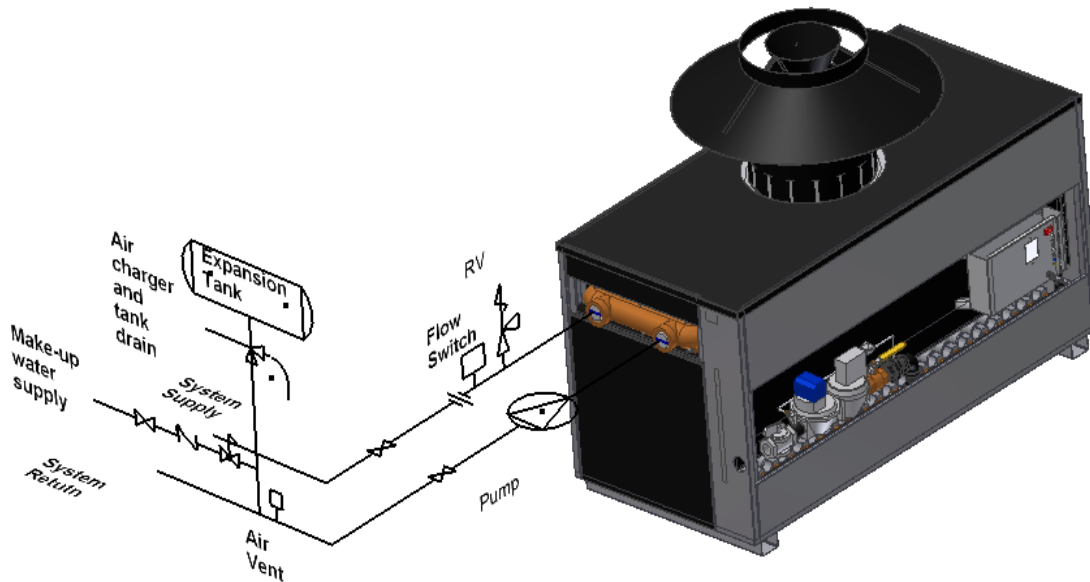

Figure 3
11. PIPING OF BOILER TO THE SYSTEM (FIG.3)